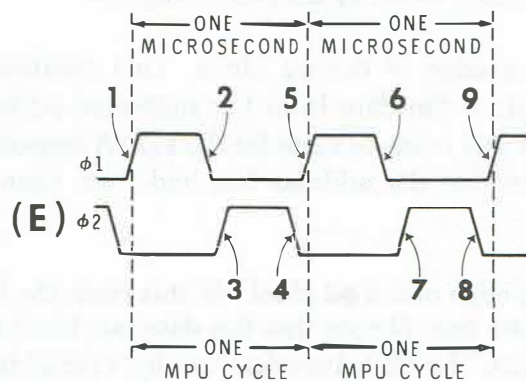

Figure 10-8
Figure 10-8 shows the 2-phase clock signals required by the microprocessor. Keep in mind that the 6808  $\phi 1$  and  $\phi 2$  clock signals are generated internally but controlled by an external crystal. It should be noted that the  $\phi 2$  clock signal is the enable (E) output of the 6808. These two clock signals control every single action that takes place in the MPU and its peripheral devices. To illustrate this, we will discuss the significant events that occur during the fetch and execution of the LDAA immediate instruction.